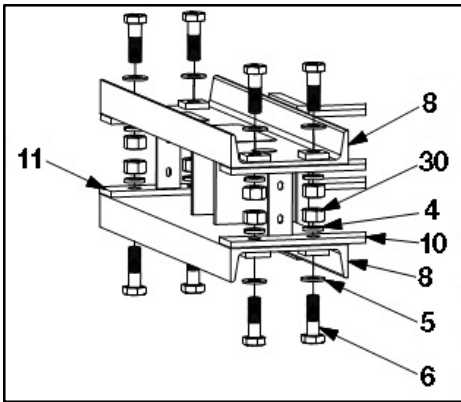

Fig. 2: Install upright frame weldments
3. Install the Lower Frame Brace Weldment [item #12] and the (2) Foot Angles [item #25] to the Upright Frame Weldments [items #10 and # 11], as shown in Fig. 2, using (4) 3/8" X 1 1/4" Grade 5 Cap screws [item #23], (4) 3/8" Washers [item #22], and (4) 3/8" Nuts [item #24].